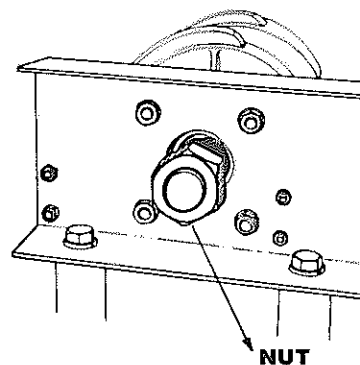

Fig. 29
2. End play is removed by tightening the nut on the end of the knotter shaft, see Fig. 29. Adjustment should be distributed among all six knotters in the knotter assembly. Do not overtighten. Each knotter should be free enough to raise easily by hand yet not so free as to drop.